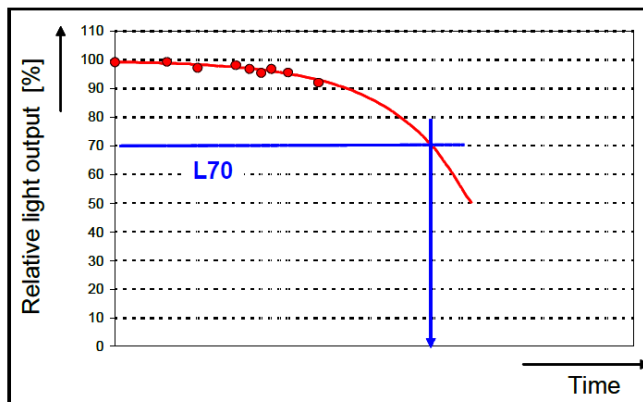

Figure 34. Degradation curve
The diode's intrinsic reliability time describes the wear out period of the component at the end of the product cycle. It is based on increased aging of the material. This continuous change over time is generally measurable and is referred to as degradation. For LEDs, the most significant degradation parameters are the changes in brightness or wavelength. Other parameters such as forward voltage drop generally play a lesser role. During operation, LEDs experience a gradual decrease in luminous flux which is measured in Lumens. As a rule, this is accelerated by increasing the operating current and temperature of the LED even it is driven within specifications. The term "Lumen maintenance" (L) is used in connection with the degradation of light in LEDs. This describes the remaining luminous flux over time with respect to the original luminous flux of the LED. Due to continuous degradation, a failure criterion must be established in order to obtain a correct evaluation of the LED failure. The point in time at which the luminous flux of the LED reaches the failure criterion is then described as the failure time or lifetime of the LED. As a rule, the failure criterion is determined by the application. Typical values are 50% (L50) or 70% (L70) which depend on the relative light output versus time curve shown in Figure 34, [4].